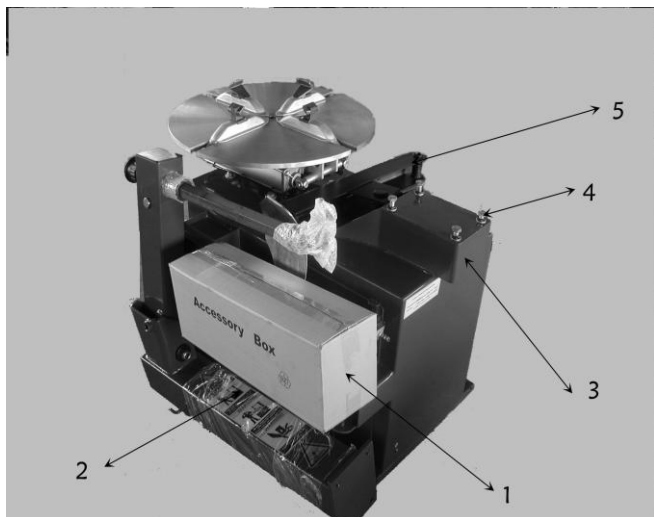
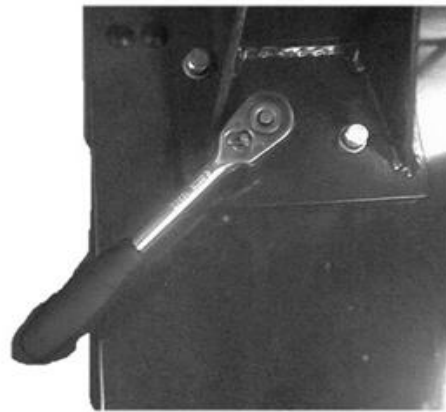

Fig 4-1
Fig 4-2
As shown in Fig 4-1, unpack the package box and take out the accessories (1) bead breaker arm (5) and column assembly (2) and fix the body as Fig4. Unscrew the hex screw (4) on the body and elastic washer and flat washer.
4.2.4 Position the column assembly on the body with the warning stick facing toward. Retighten the bolt, flat washer and elastic washer removed shown in Fig 4-1 evenly. The tighten torque is 70 N·M (Fig 4-2) and use the torque wrench to fix.